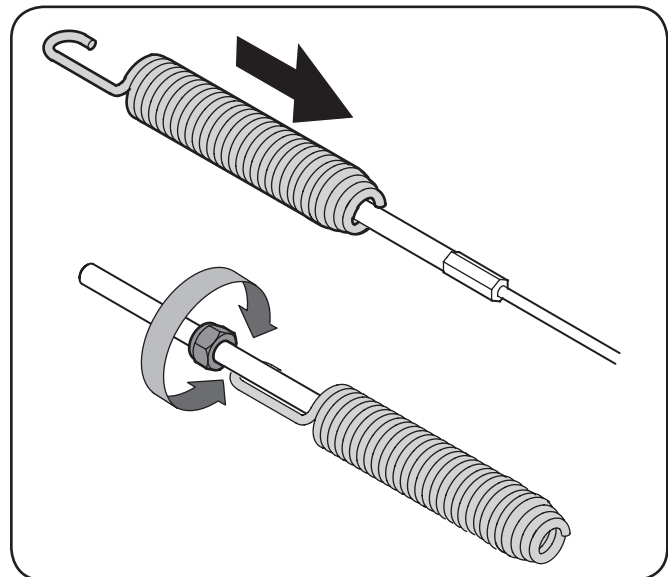

Figure 3-12
- Slide the spring up the cable to expose the cable coupler threads and lock nut. Refer to Figure 3-12.